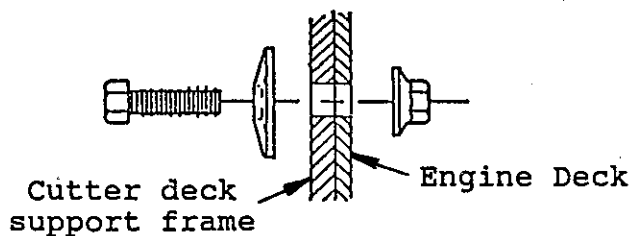

Fig. 1 Whizlock nuts to inside of engine deck for the rear two holes.
- 3.5.4 Install cutter deck support frame to tractor engine deck and secure with eight 3/8-16 x 1 HHCS hex head capscrews; eight 3/8 disc spring washers and eight 3/8-16 whizlock nuts. Note: Place spring washer cone against bolt head and install whizlock nut to inside of engine deck for the two rear holes on both sides and install whizlock nut to the outside for the two front bolt holes on each side of the cutter deck support frame. Tighten until spring washers are flat. See Figures 1 and 2.